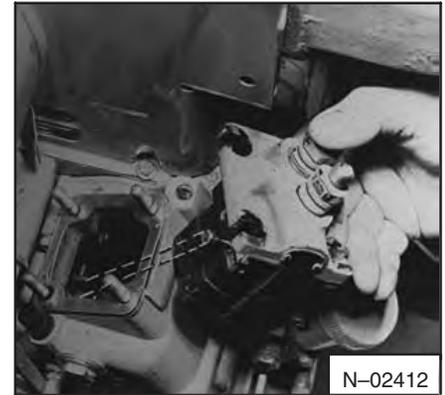

Fig. 7A-12 Adding And Removing shims
4. Move the rack of the injection pump lever with the recess in the engine housing (Fig. 7A-13).